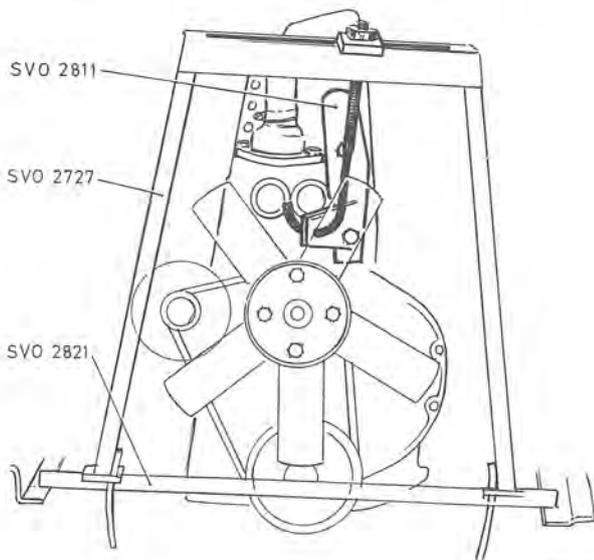

Fig. 6-15. Tool for lifting engine
1. Install the lifting plate SVO 2811 on the engine and also lifting tool SVO 2727 together with the extension rod SVO 2821, see Fig. 6-15. Raise the engine until the weight is taken off the front engine mounting. Temporarily block the vent-hole in the brake fluid container cover to reduce leakage. Remove the hub caps and loosen the nuts for the front wheels a couple of turns.